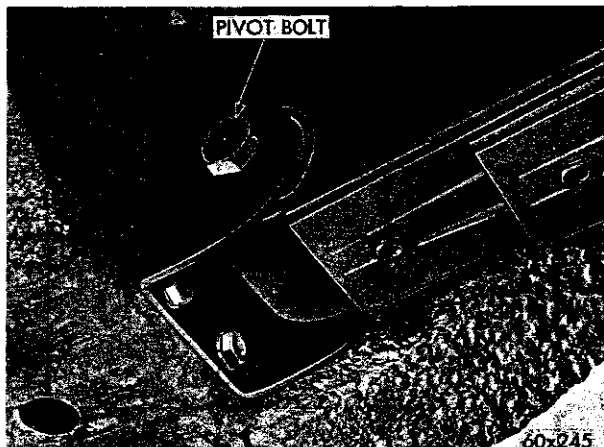

Fig. 3—Rear Spring Front Hanger
(1) Position the springs in their respective front hangers (Fig. 3) and install the pivot bolts and nuts (**finger tight only**).
(2) Install the spring shackles and nuts.
(3) Install the spring "U" bolts and nuts.